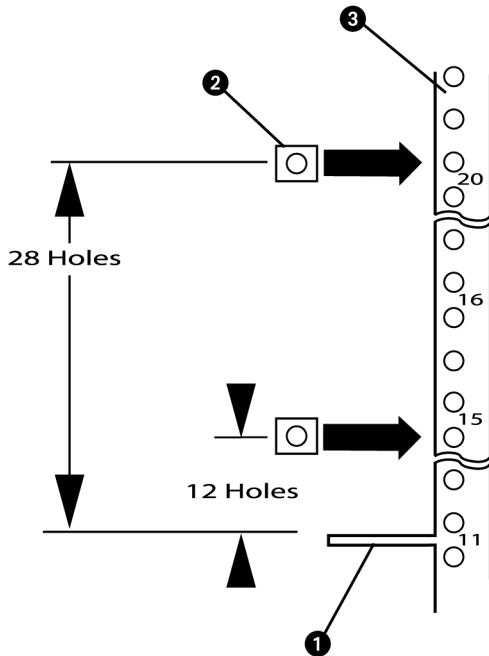

Figure 22 Preparing the rear rack columns
2. Prepare the rear rack columns (Figure 22):
- a. Standing at the back of the rack, count up from the top of the rail tray (①) to 12th and 28th on the rack's back face.
- b. Slide a sheet metal nut (②) on each of the located holes.
**NOTE:** Two sheet metal nuts should be on each back column face (❸).